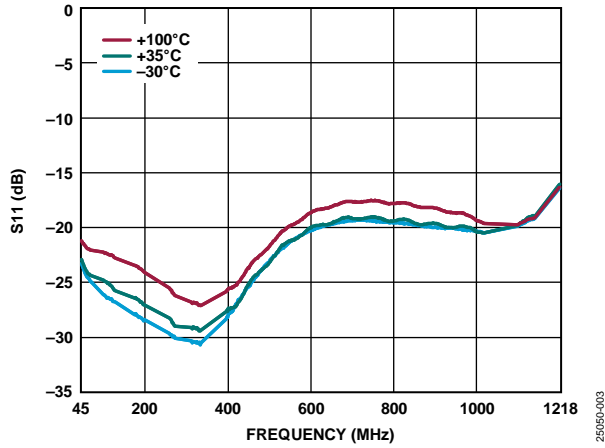

Figure 3. S11 vs. Frequency at Various Temperatures
- Low noise figure: 3 dB at 45 MHz and 4 dB at 1218 MHz**